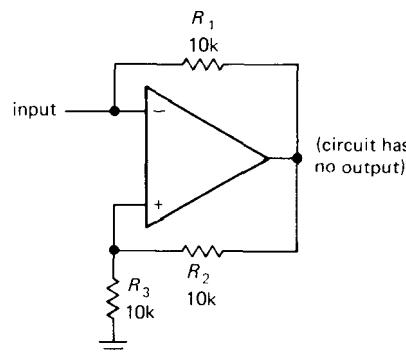

Figure 4.92
(6) The circuit in Figure 4.92 is an example of a "negative-impedance converter."